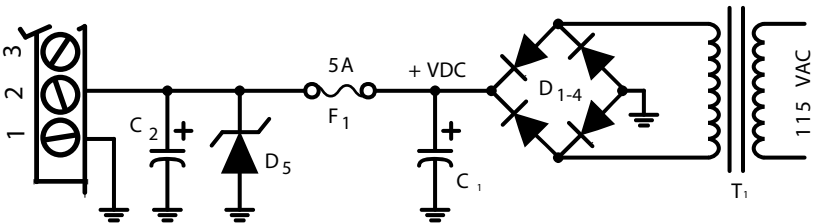

Figure 3: Power Supply
**The power supply terminals should have a capacitor of at least 470  $\mu$ f connected across them. This is particularly important for regulated power supplies since they usually have little output capacitance. This capacitor should be located as close to Terminals 1 & 2 as possible (see Figure 3, C2).**
For those users that wish to build their own power supply, Figure 3 shows a suggested circuit. Because of the electrical noise generated by these drives, it is not recommended that the supply be shared with low level logic circuitry.
To prevent this problem a zener diode should be connected from Terminal 2 to ground (Figure 3, D5). This diode protects the drive from any over-voltage condition. Recommended diodes are 1N4762 (1 watt) or 1N5375 (5 watt). Note the 5 AMP fuse (F1) placed in series with Terminal 2 and the power supply. Be sure this fuse is located between the power supply and the zener diode. In the event of an over-voltage condition the zener diode and fuse may be destroyed, but the CN0162 and power supply will be protected from damage.
If the motor is wired for high performance (parallel) the current required from the supply will not exceed 2 / 3 of the motor's rated per phase current. Low performance (series) operation requires a maximum of 1 / 3 the motor's rated current. Use the manufacturer's phase current rating of the motor in conjunction with the motor wiring option to estimate the size of power supply required. As an example, a 6 wire motor rated at 4 amps per phase is used with the power supply circuit (in Figure 3) and the motor is in the full winding (series) configuration. To calculate the current required from the power supply:
In this example, assume a transformer with a 25 volt RMS secondary will be used. After rectification this will produce a 37 VDC power supply voltage. To calculate the size of the filter capacitor (Figure 3,  $C_1$ ) use the following equation:
$C_2$  (in Figure 3) is the 470  $\mu F$  capacitor that should be located close to the CN0162 power supply terminals.  $C_1$  may be made smaller by that amount if desired. Both capacitors must have a voltage rating safely in excess of the power supply voltage; 50 VDC being a good choice for this example.